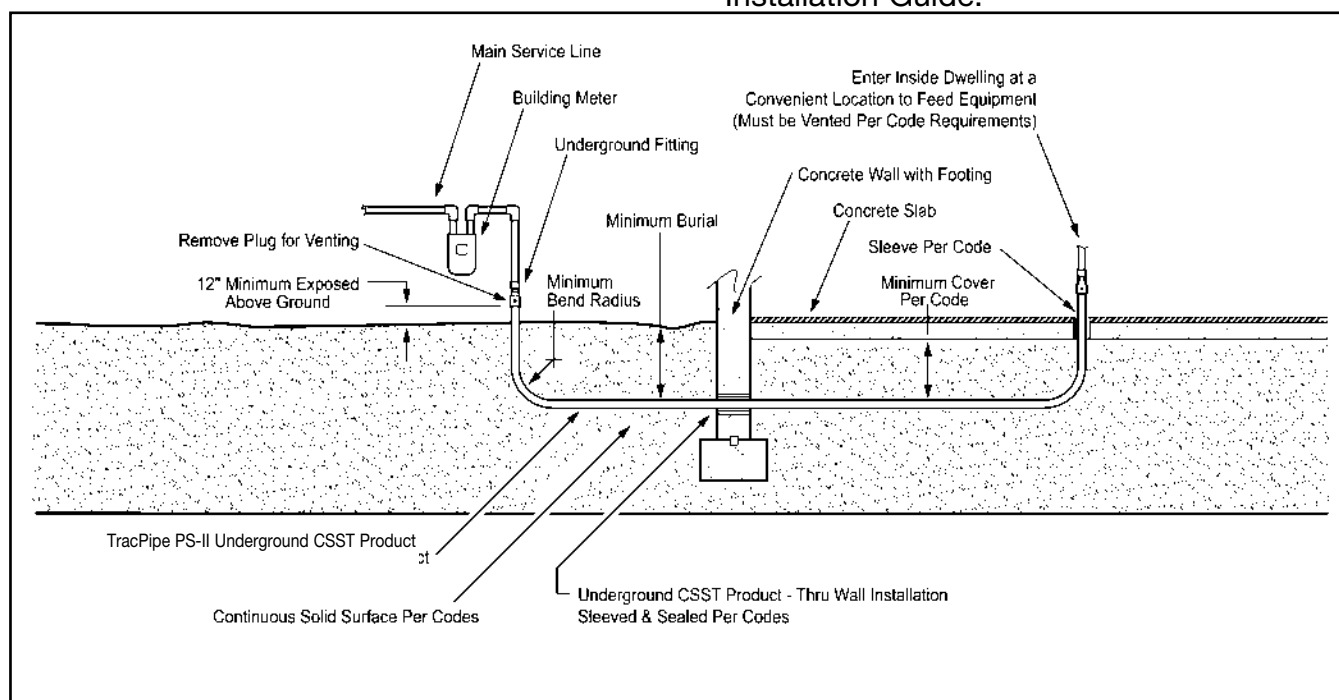

Figure: 4-44
1. Lay **TracPipe® PS-II** in a trench. Install the gas piping with a substantially continuous bearing on the bottom of the trench, to the appropriate burial depth as defined in Table: 4-8 and shown in Figure: 4-44.